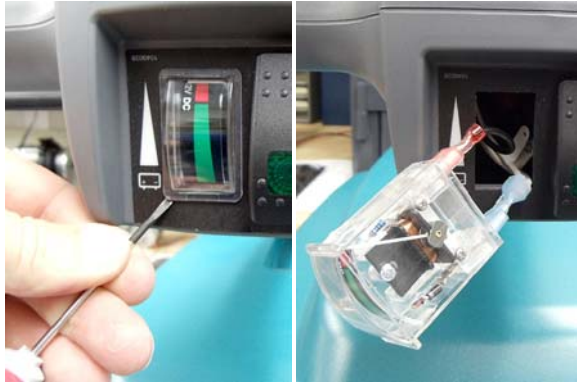

Fig. 10
- Remove the lithium-ion battery discharge gauge from handle (Figure 10).